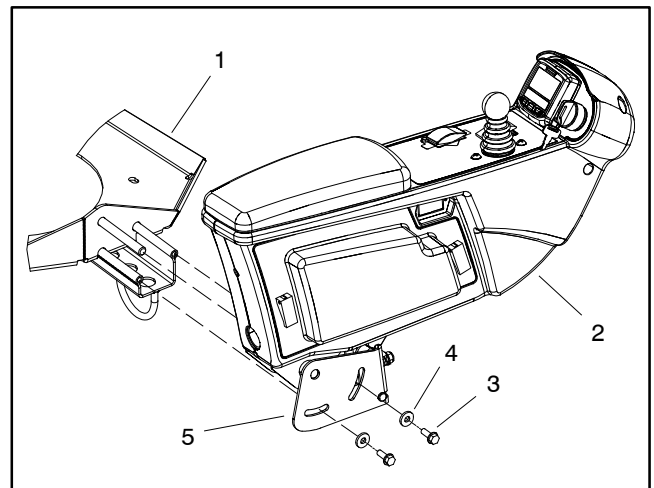

Figure 17
4. Remove two (2) flange head screws and flat washers that secure retainer bracket assembly and control arm assembly to seat base (Fig. 17). Remove retainer bracket assembly.
3. Make sure that two (2) bushings are positioned in control arm pivot area. Carefully slide control arm assembly onto seat base post.
4. Position retainer bracket assembly to control arm and secure with two (2) flange head screws and flat washers (Fig. 17).